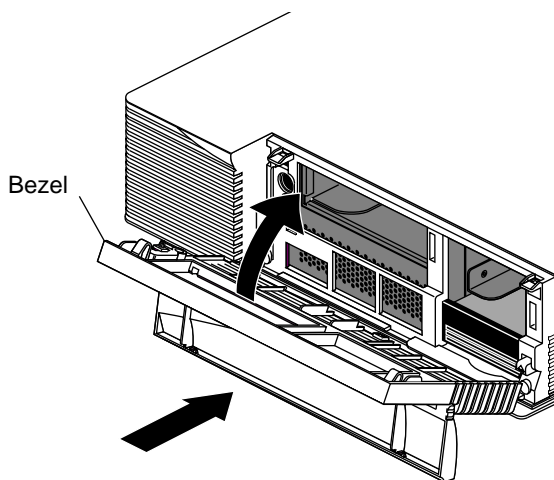

Figure 3-15 Replacing the Bezel
- Place the tabs on the bottom of the bezel in the grooves in the front of the chassis. See Figure 3-15.